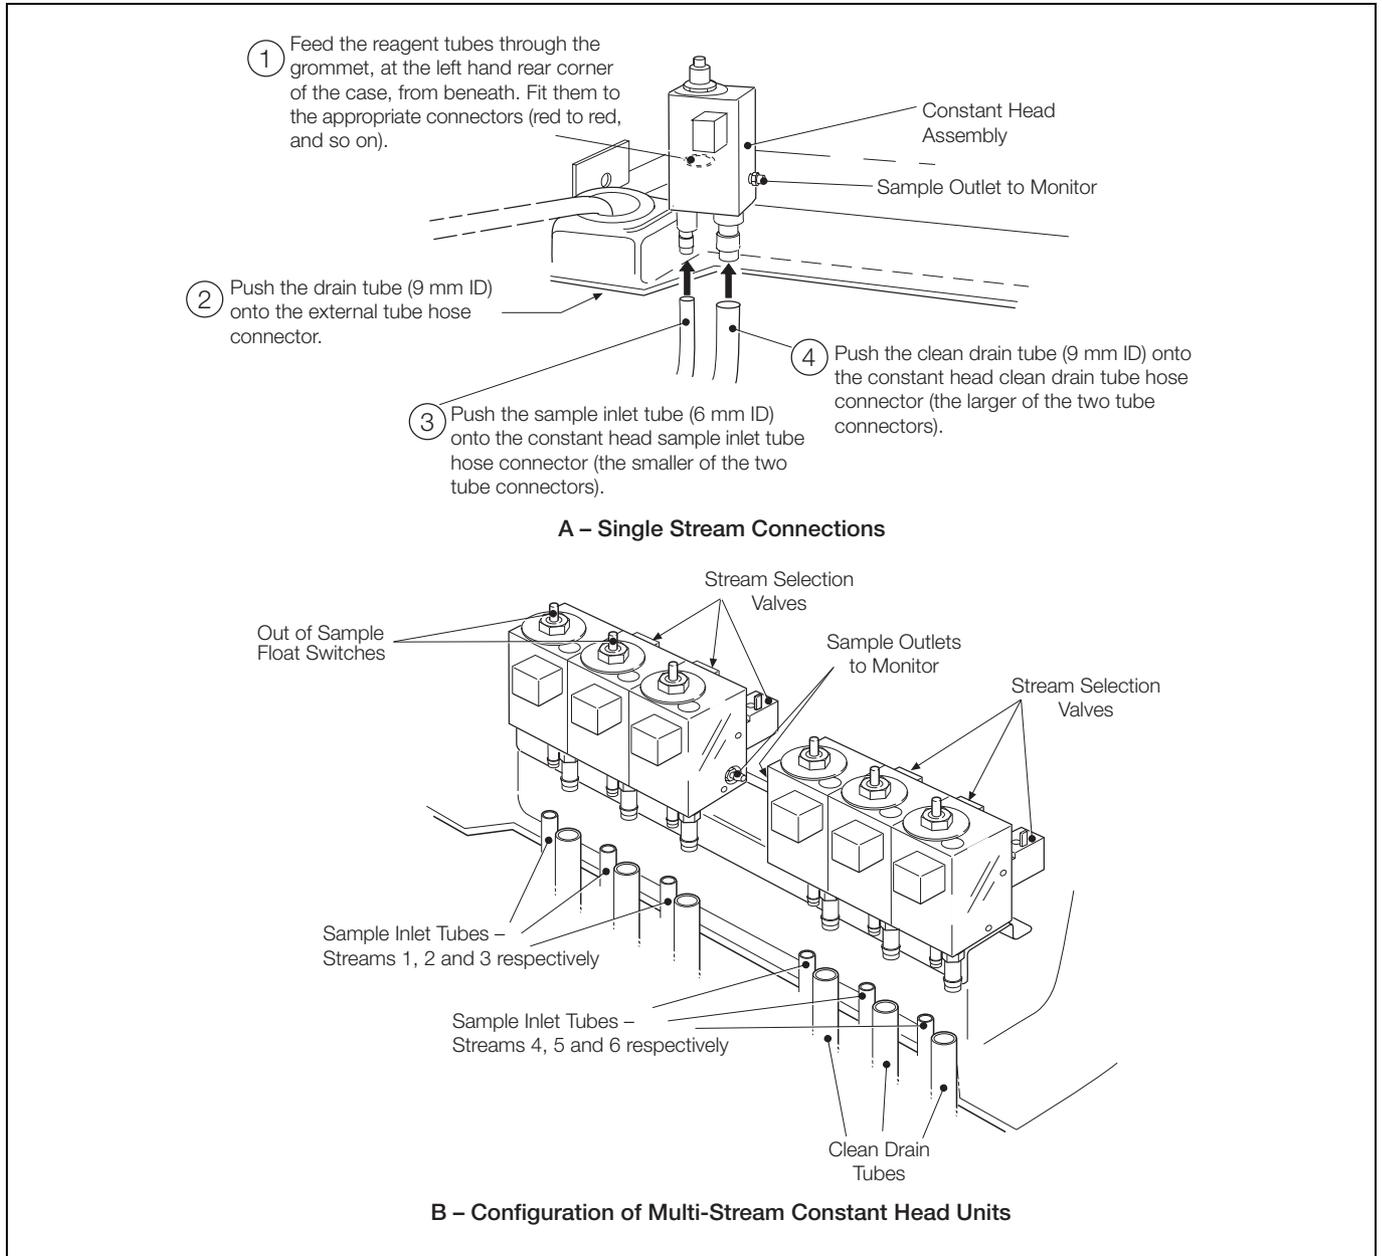

Fig. 2.2 External Tube Connections
2.5 Sample Connections – Fig. 2.2